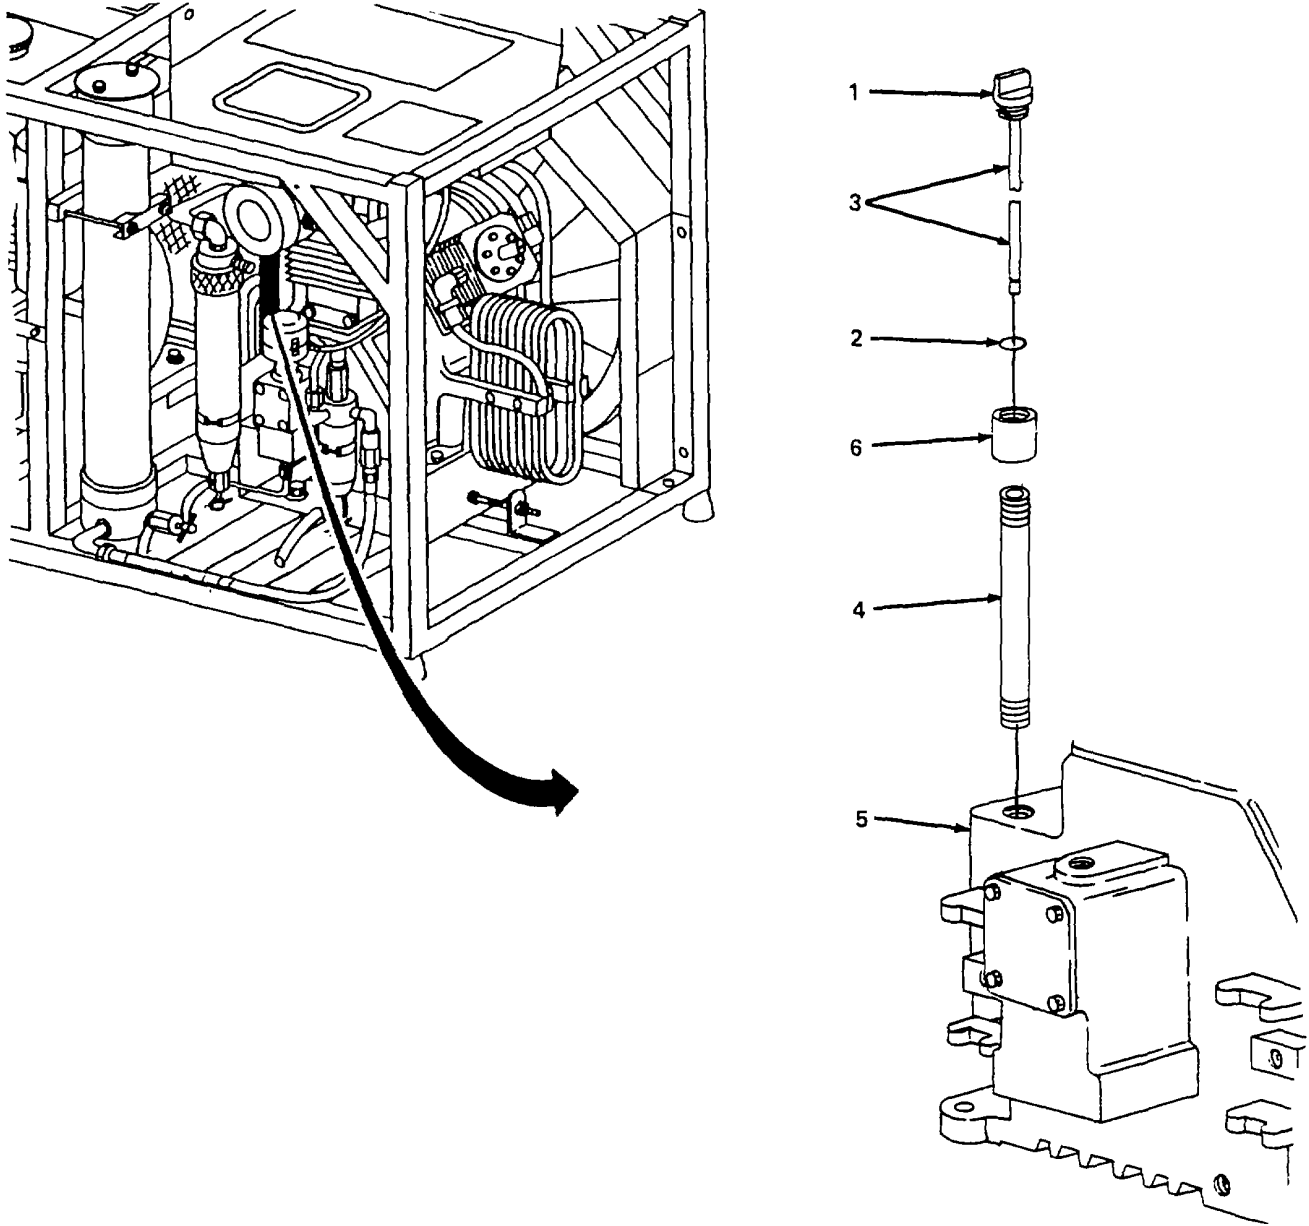

Figure 4-10. Oil Filler, Replace.
**Replace.** (figure 4-10)
- (1) Remove filler cap (1) and preformed packing (2) with dipstick (3). Discard preformed packing (2).
- (2) Ensure area around mating surface of oil filler (4) and crankcase (5) is clean and all dirt and debris is removed.
- (3) Remove oil filler tube (4) with adapter (6).
- (4) Remove adapter (6) from oil filler tube (4).
- (5) Install adapter (6) on oil filler tube (4).
- (6) Install oil filler tube (4).
- (7) Install filler cap (1) and new preformed packing (2) with dipstick (3).